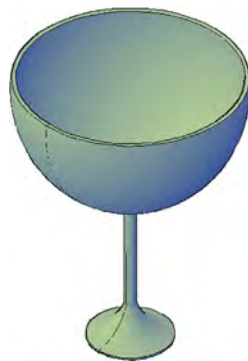

FIGURE 26.16
- Step 5.** Key in any value or press Enter for the full 360°. The result, shaded, is shown in Figure 26.16.